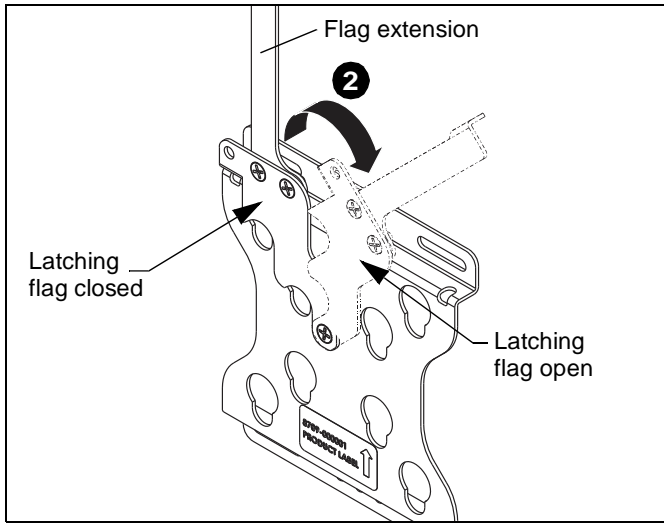

Figure 7
- Open latching flag by rotating flag clockwise on FSR1U/FSR100 assembly (A). (See Figure 7)